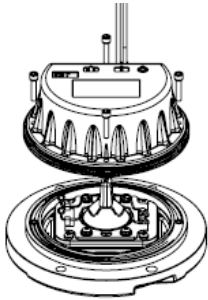

Figure 5-4
- Place the top of the lighting fixtures downwards and dismount 4 M5×25 hexagon socket cap screws and spring washer (Figure 5-4).